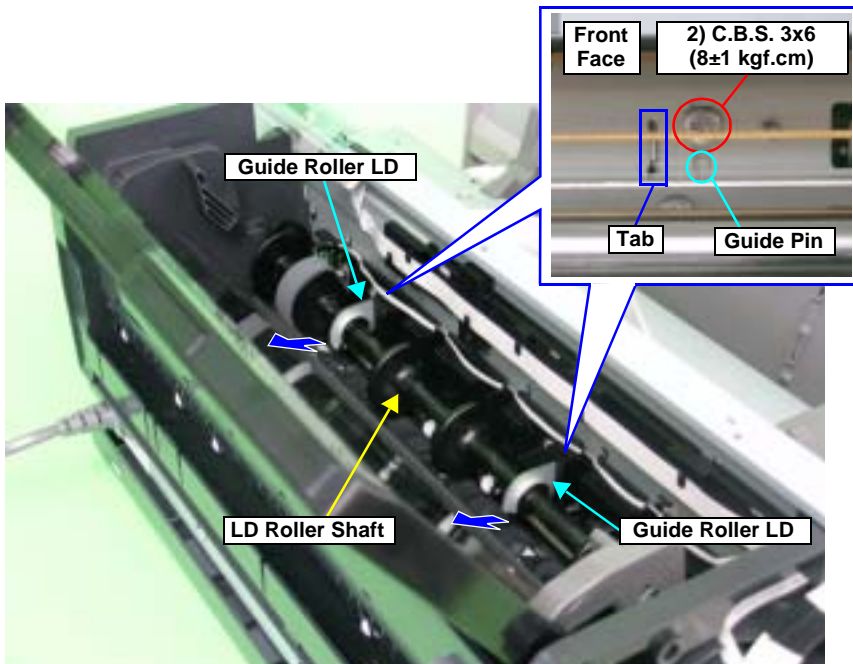

Figure 4-22. Removing the Guide Roller LD
Align the Guide Pins and Tabs on the Guide Roller LDs with the positioning holes on the Main Frame. Refer to Figure 4-22.
- After installing the ASF Assy, loosen the two C.B.S. M3 x 6 screws that secure the Guide Roller LD. Refer to Figure 4-22.